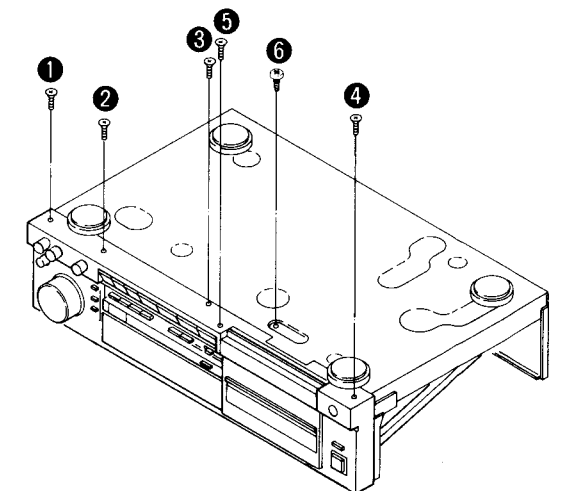

Fig. 5
| Procedure1→5 | • Remove the screw (6) (See the Fig. 5).• Remove the 5 screws (1~5).• Push the eject button. |